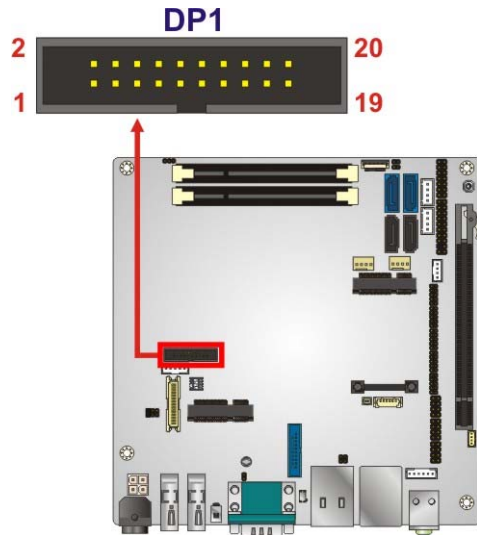

Figure 3-6: DisplayPort Connector Location
- CN Location:** See **Figure 3-6**